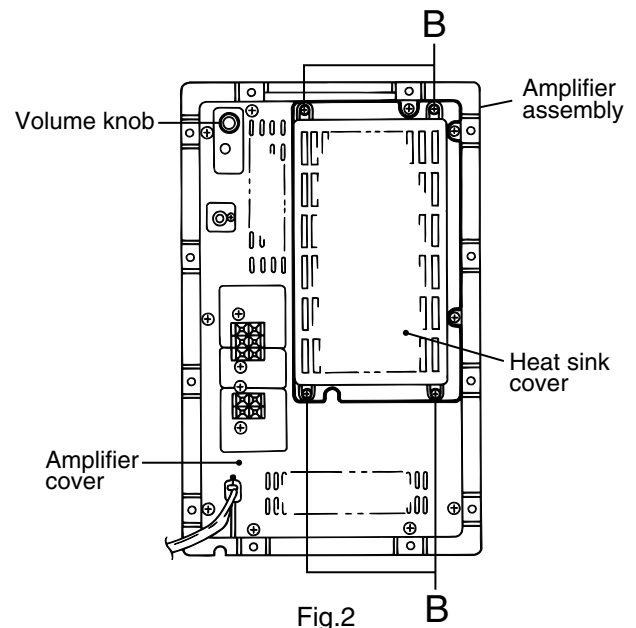

Fig.2
■ Removing the heat sink cover and the amplifier cover (See Fig.2 and 3)